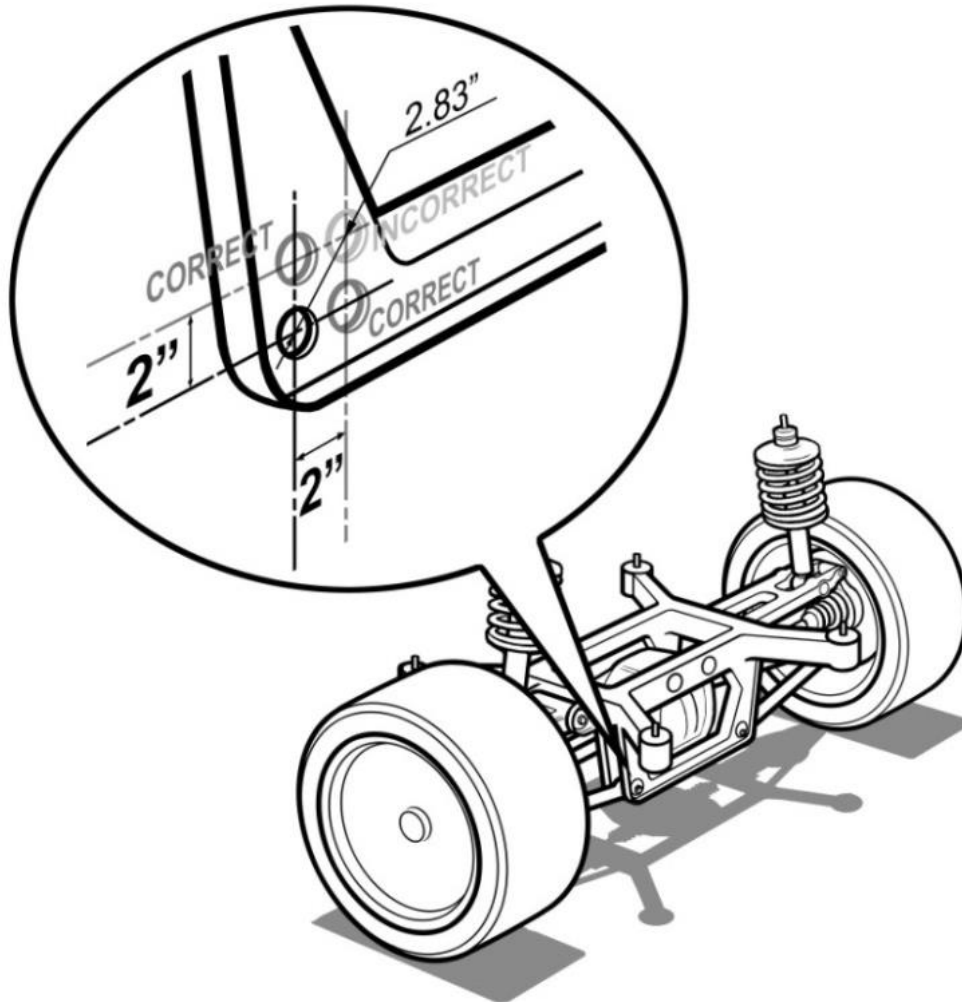

Figure 8
- K. This will be measured center to center from the original pivot point to the new pivot point. Please refer to Figure 8. This rule only applies to vehicles with a rear subframe and to pivot points on the rear subframe.